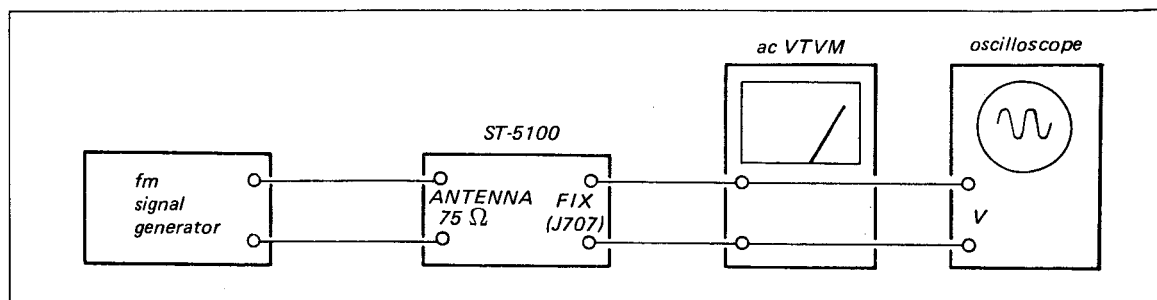

Fig. 3-2 I-f, muting and front-end alignment setup
1. With the equipment connected as shown in Fig. 3-2, set the signal-generator's controls as follows:
1. With the equipment connected as shown in Fig. 3-2, set the tuner's controls as follows:
- Connect the equipment as shown in Fig. 3-2.